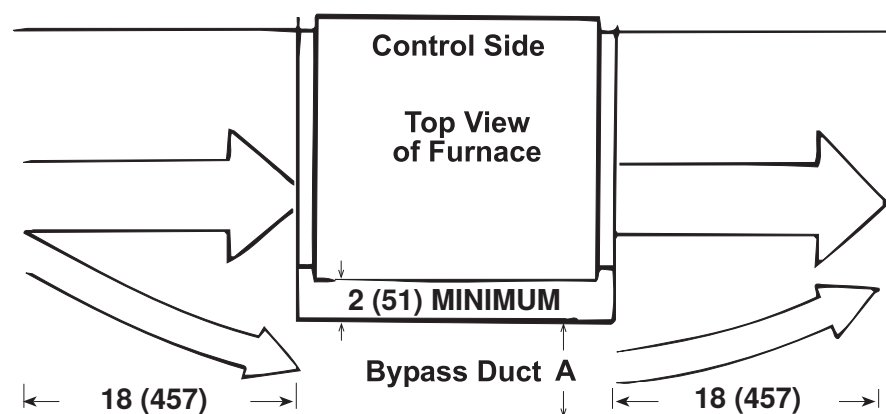

Figure 12. Bypass Duct Dimensions
When the CFM of air throughput is greater than that which is desirable or permissible for the unit, a bypass duct (see Figure 12) may be constructed. Determine the correct size of the bypass duct as follows:
3. Refer to Table 8 to determine duct size based on closest bypass CFM value in column topped by closest pressure drop value (e.g., pressure drop = **0.36** (go to 0.35 column) and bypass CFM = **780** (830 is closest value in that column), therefore, bypass duct A dimension (see Figure 12) = **3 inches (76 mm)**).
*See Figure 12.